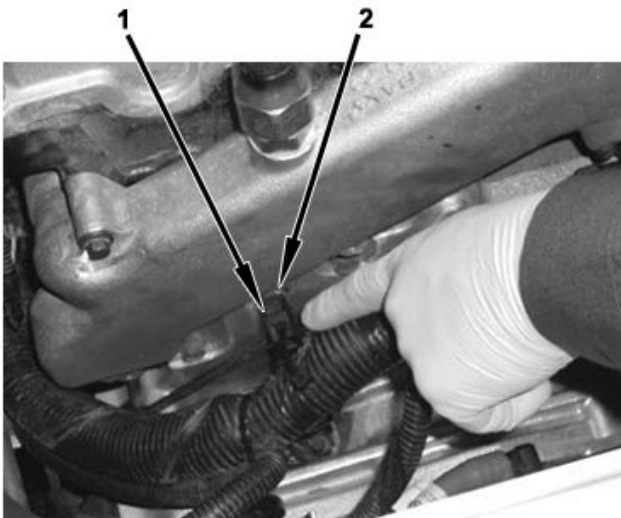

Figure 41. Engine Harness Guide.
22. Install the engine harness guide (Figure 41, Item 1) to M8 x 50 x 16 stud bolt (Figure 41, Item 2) and torque to 26 lb-ft (35.2 N·m).